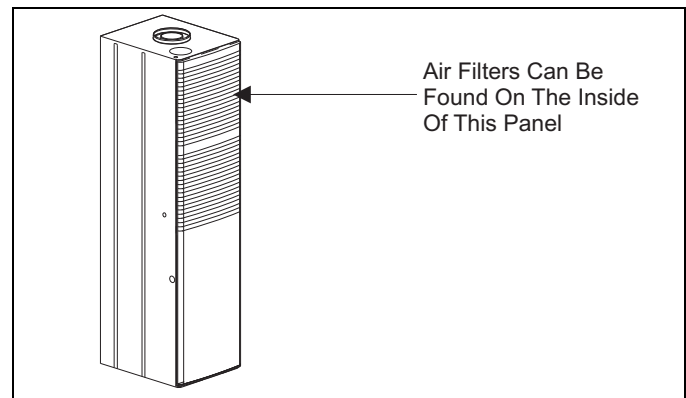

FIGURE 13: Furnace Air Filters
- FURNACE FILTER RACK:** A return filter rack with two standard throwaway type filters are supplied on all models. The return filter rack is located on the inside of the louvered door. This type of filter rack is designed for two standard air filters only. Pleated Media or Washable Filters cannot be used in this filter rack because they cause too much pressure drop causing a reduction in airflow. Refer to Figure 13.